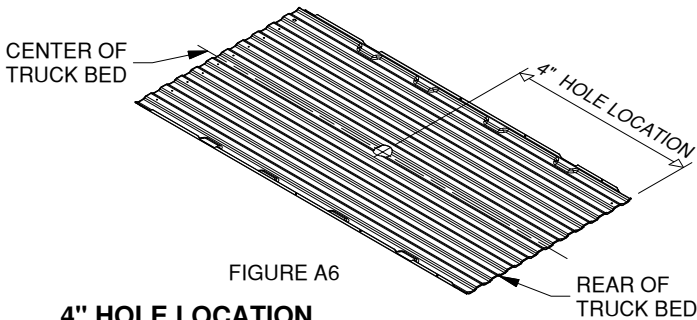

FIGURE A6
11. **Mark the 4" hole location.** Using a tape measure hooked over the rear edge of the bed (at tailgate end), measure the location for the hole as shown in Figure A6. Next, locate the center of the bed by measuring the distance between the wheel wells and dividing by two. The center of the hole will be at the intersection of the center of the bed and the first distance measured.